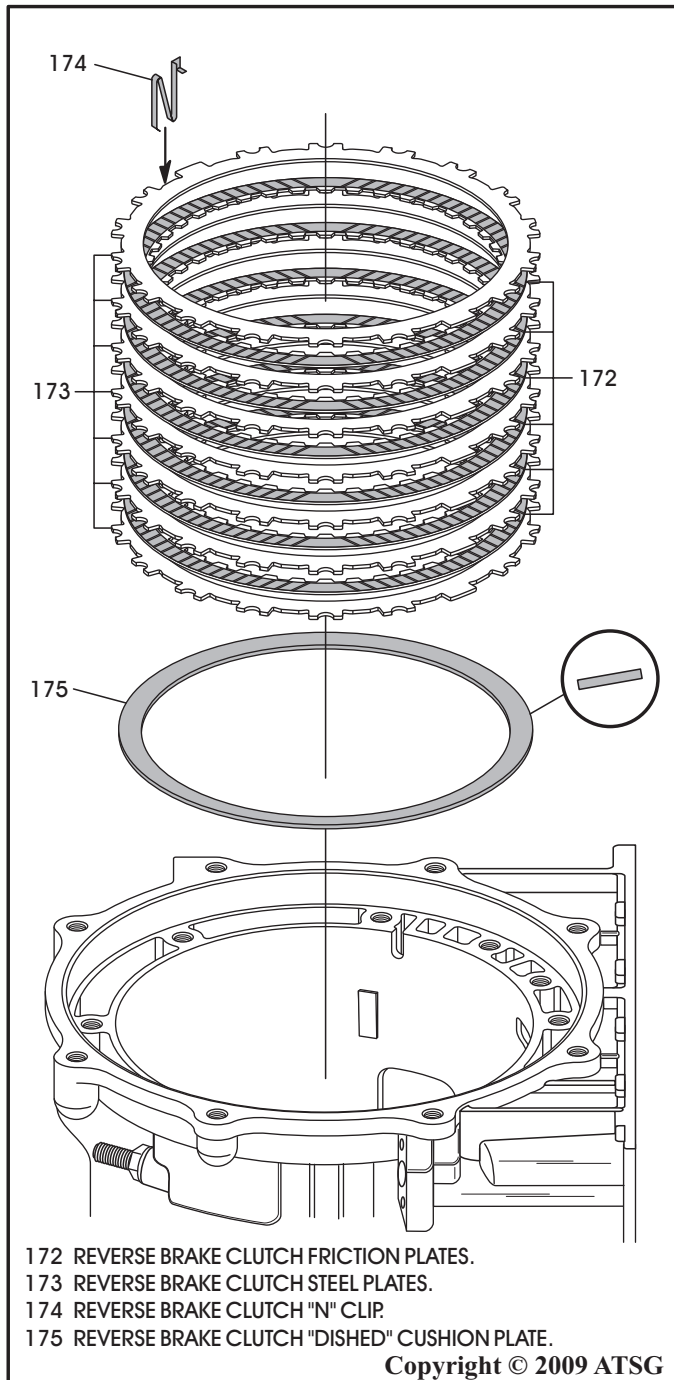

Figure 203
30. Install reverse brake clutch "dished" cushion plate, as shown in Figure 203.
31. Install reverse brake clutches beginning with a steel plate and alternating with friction plates, as shown in Figure 203.
32. Install the "N" spring between the steel plates and the case, as shown in Figure 203 and 204.